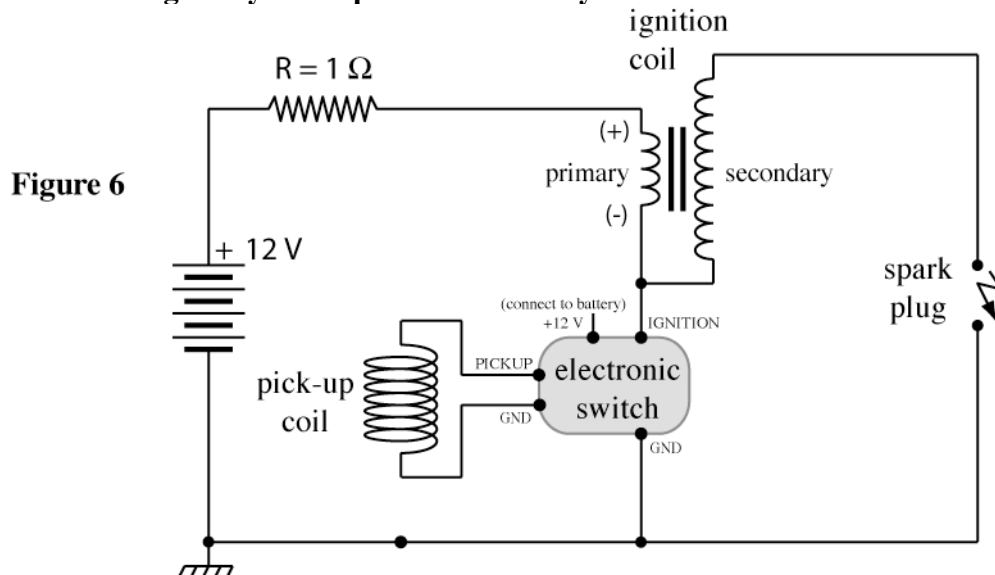

Figure 6
Connect the pick-up coil and electronic switch (the green circuit board) to the rest of the ignition circuit as shown in Figure 6. Often not all wires are shown in a circuit diagram to help make the functionality of the circuit more clear; in this case the wire that connects the battery to the electronic switch (the electronic switch needs battery power to operate) is not drawn in. All ground (GND) connections on the circuit board are in common (are connected together).
20. By-passing the series resistor is accomplished by the wiring of the ignition switch. Describe two ways you can do the same thing in your circuit (fig 6). Check out your ideas with your TF and then proceed to by-pass your series resistor.